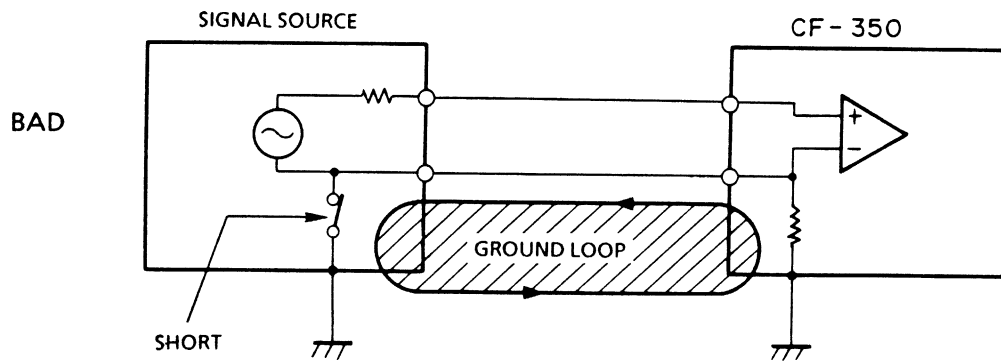

Fig. 1-1
- When the signal source ground and the cabinet are connected as shown in Fig. 1-1, a ground loop will be formed, causing susceptibility to noise. For this reason, the signal source ground should be isolated from the cabinet as shown in Fig. 1-2.